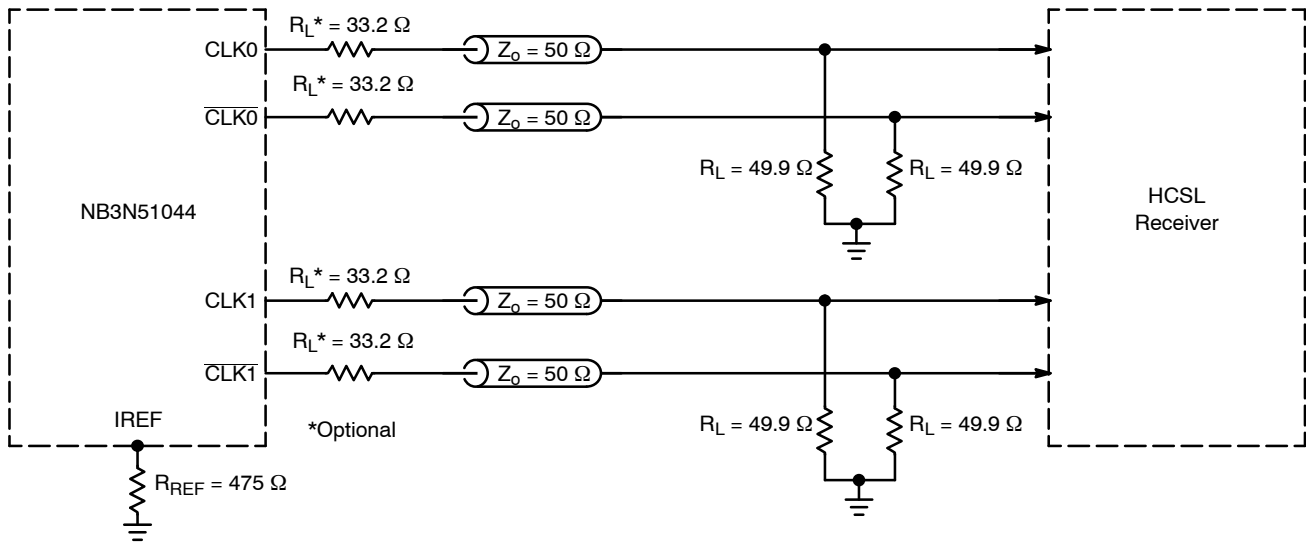
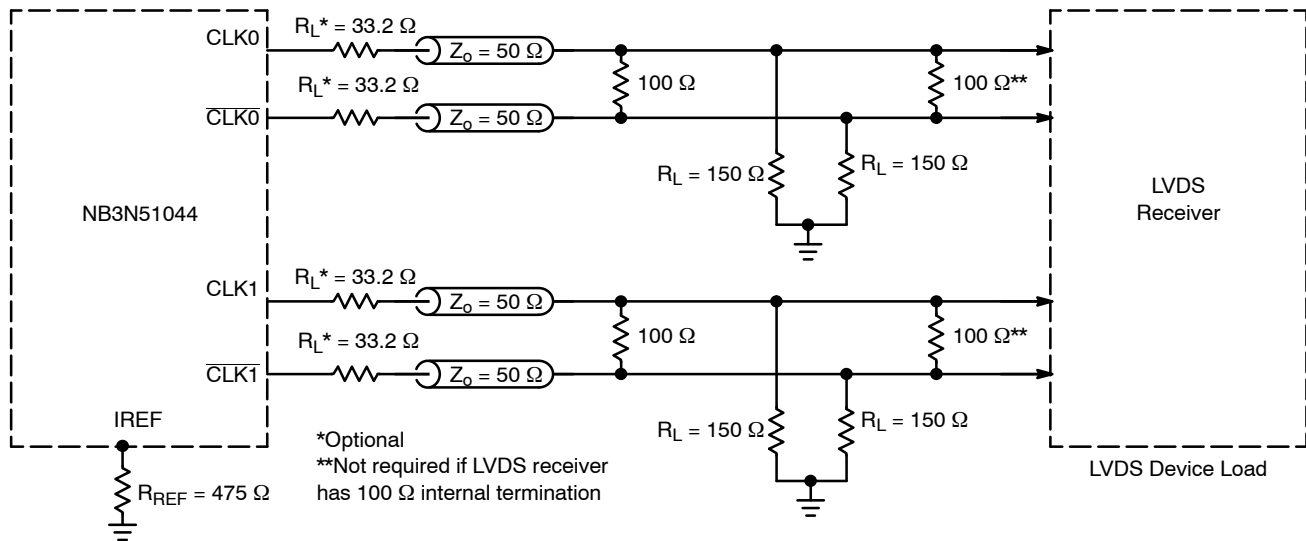

Figure 9. Typical Termination for HCSL Output Driver and Device Evaluation
Figure 10. Typical Termination for LVDS Device Load
4. Measurement taken with outputs terminated with $R_S = 33.2 \Omega$, $R_L = 49.9 \Omega$, with test load capacitance of 2 pF and current biasing resistor set at $R_{REF} = 475 \Omega$. See Figure 9. Guaranteed by characterization.
12. Measurement taken from differential output on single-ended channel terminated with $R_S = 33.2 \Omega$, $R_L = 49.9 \Omega$, with test load capacitance of 2 pF and current biasing resistor set at $R_{REF} = 475 \Omega$. See Figure 9. Guaranteed by characterization.
18. Measurement taken from differential output on single-ended channel terminated with $R_S = 33.2\ \Omega$, $R_L = 49.9\ \Omega$, with test load capacitance of 2 pF and current biasing resistor set at $R_{REF} = 475\ \Omega$. See Figure 9. This parameter is guaranteed by characterization. Not tested in production.
The outputs can be terminated to drive HCSL receiver (see Figure 9) or LVDS receiver (see Figure 10). HCSL output interface requires $49.9\ \Omega$ termination resistors to GND for generating the output levels. LVDS output